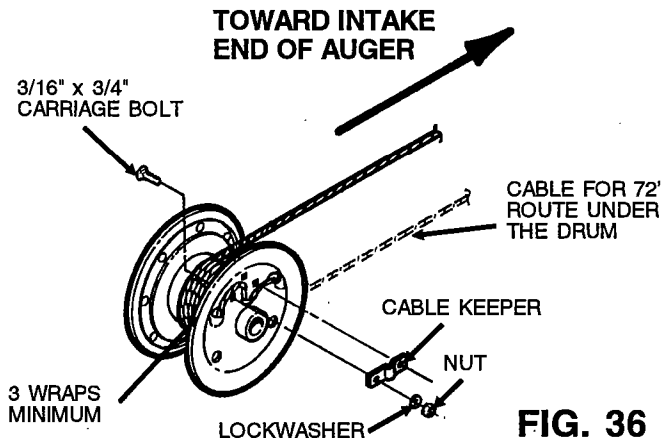

FIG. 36
Step 34. Attach 1/4" lift cable to winch drum so cable will wrap over winch drum on 32', 42', 52' and 62' models and under winch drum for 72' models when turning handle in a clockwise direction. See Fig. 36. From inside of drum, insert the cable through one round hole in the drum side, until it extends 1" past the two square holes. Next clamp the cable to the outside of the drum with the cable keeper, using two 3/16" x 3/4" carriage bolts, lock washers and nuts. Be sure that the carriage bolt heads are on the inside of the drum.